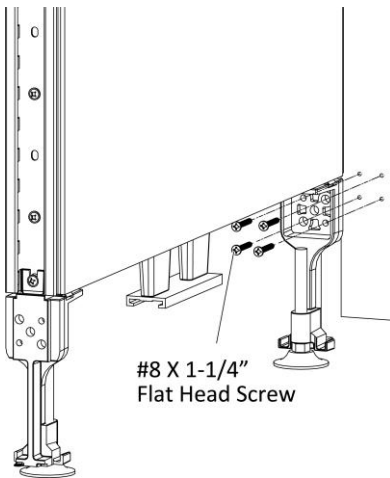

Figure 5
- Drive four #8 x 1-1/4" Flat Head Screws through the holes in the standard panel leg into the pre-drilled holes of the gallery panel, (Figure 5).